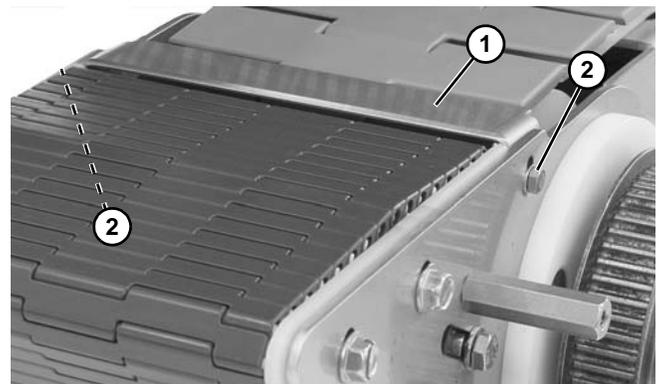

Figure 76
8. Install tensioner plate (**Figure 76, item 1**) with two hex head screws (**Figure 76, item 2**).